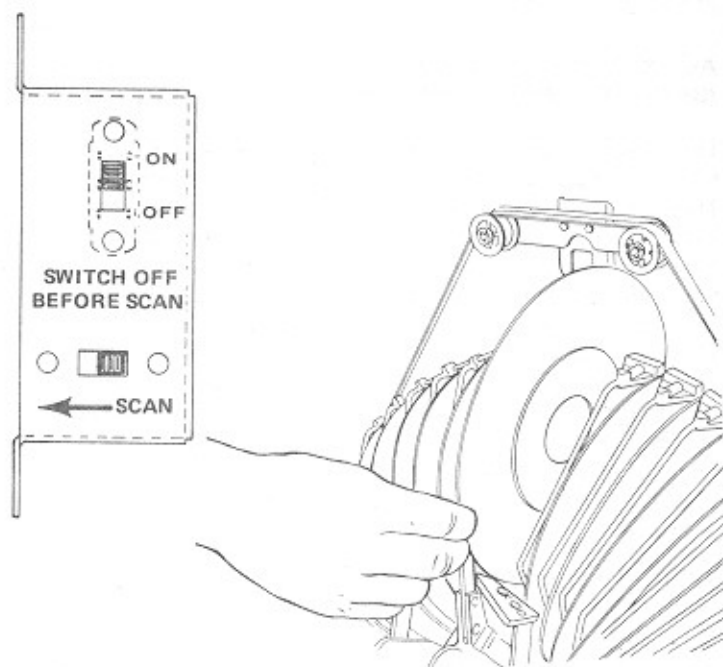

FIGURE 1-7. CHANGING RECORDS
4. Install record in magazine as shown in figure 1-7.